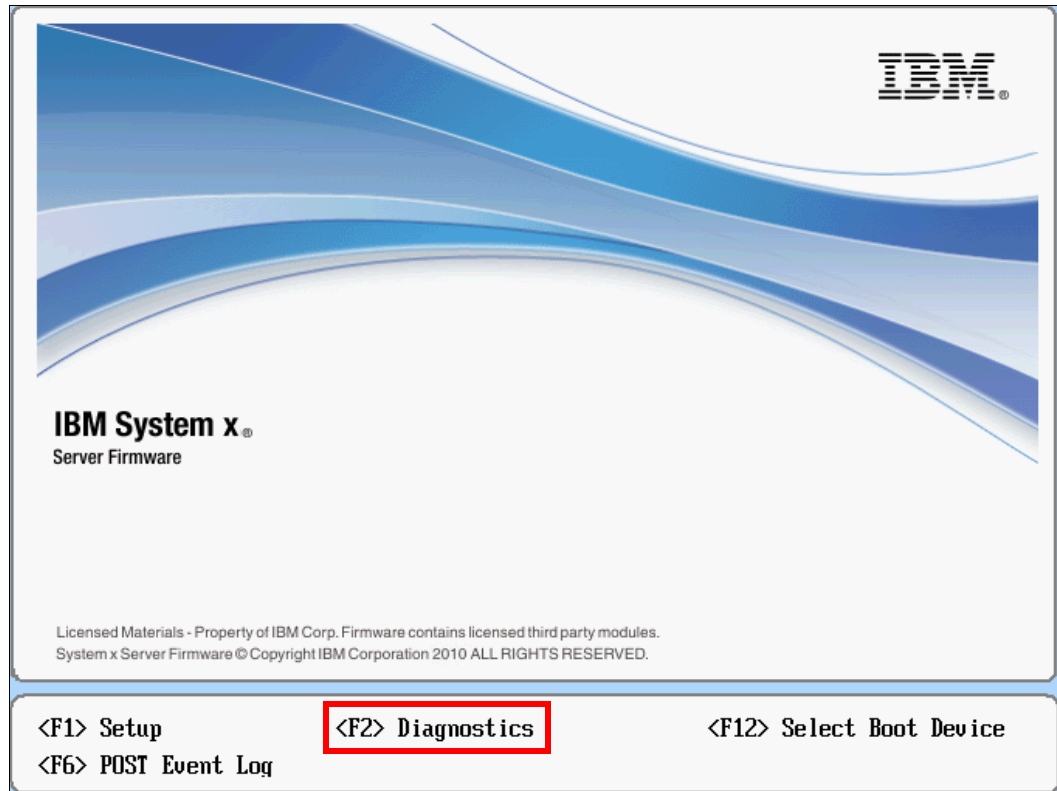

Figure 7-5 How to access diagnostics in POST
1. During POST, at the IBM System x splash panel, press F2-Diagnostics as shown in Figure 7-5 on page 308.